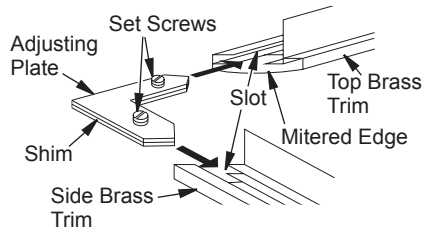

Figure 15 - Assembling Brass Trim
3. Align shim under adjusting plate as shown in Figure 15.
4. Slide one end of adjusting plate/shim in slot on mitered edge of top brass trim (see Figure 15).
5. Slide other end of adjusting plate/shim in slot on mitered edge of side perimeter trim (see Figure 15).